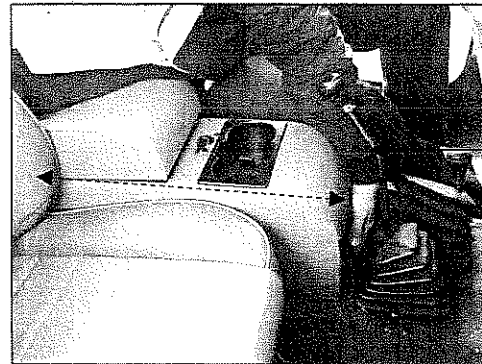

Figure 2
2. Place the Console to insure that the shifter has clearance when in all gears and is not obstructed by the Console's position (Figure 2).
3. Drill (2) holes through the rear of the Console and floor of the vehicle using 3/16" drill bit.